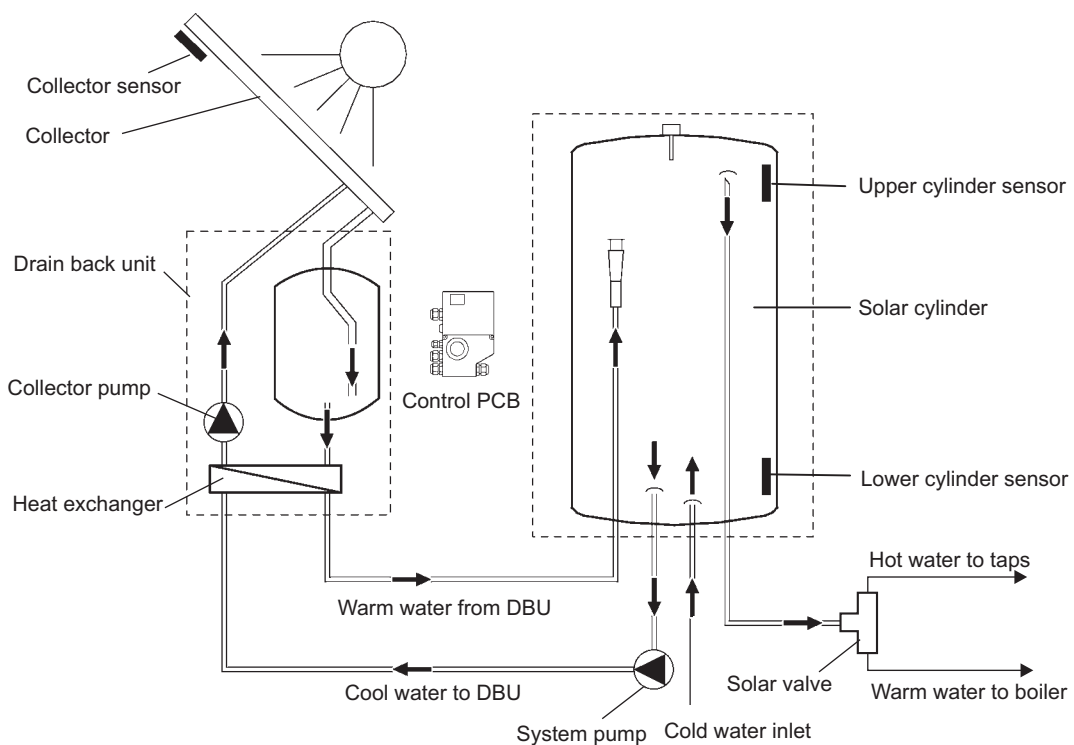

Fig. 22
6.1 WORKING PRINCIPAL - Fig.22
6.2 OPERATION OF THE SOLARSMART SYSTEM - Fig.22
The drain back unit pump (See Fig. 22) is controlled by the PCB. The collector water is circulated in a closed loop through the collector panel where it is heated then passes through the heat exchanger in the drain back unit where heat is transferred to the domestic water from the cylinder.